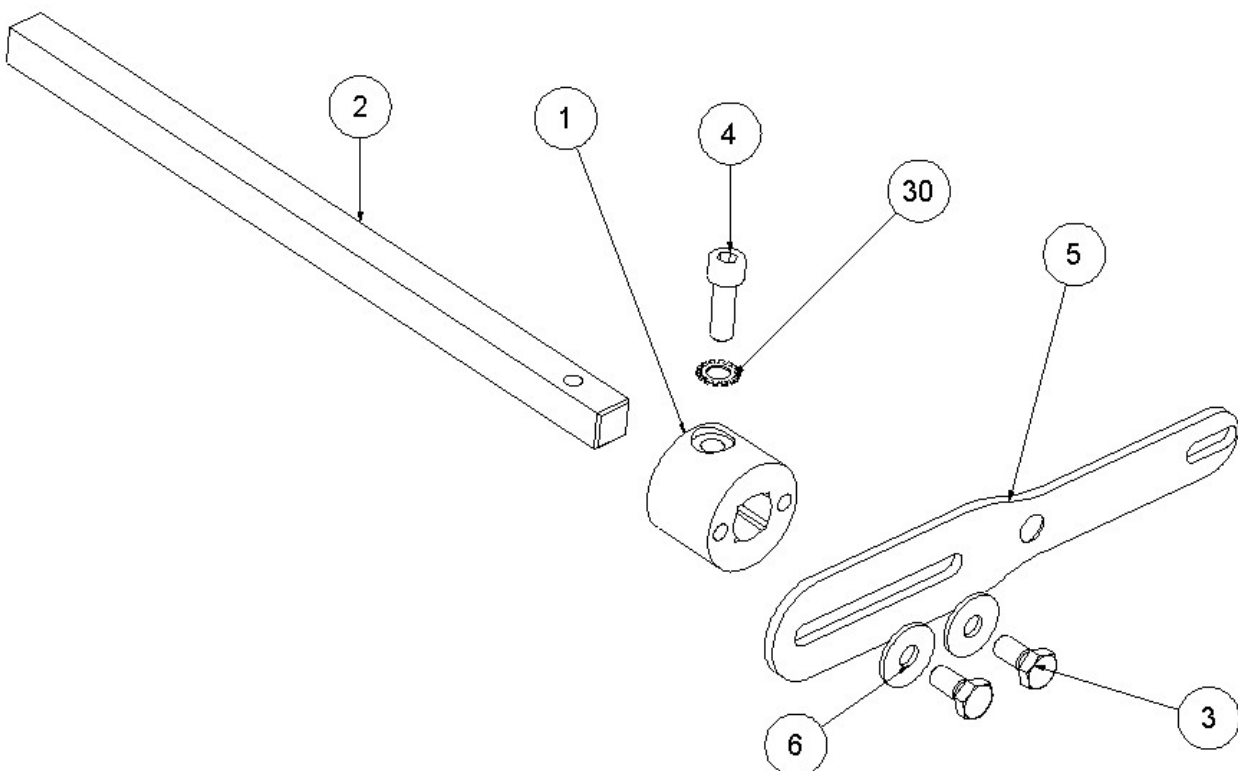

Figure. 2
2. **ARMS AND HANDLES ASSEMBLY:** Each arm (2) must be joined to an arm support (1) through a screw DIN 912 M8x25 (4) and a serrated washer DIN 6798 M8 (30). Once together, they must be joined to a handle (5) through two M8 x 16 DIN 933 8.8 (3) screws and two whasers DIN9021 M8 (6), making sure that the countersink of the handle is on its inner face, – Fig. 2 –.